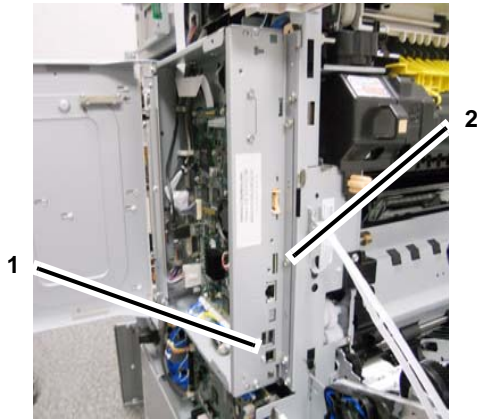

Figure 2 Removal Preparation
4. Prepare to remove the SBC IF Panel. (Figure 2)